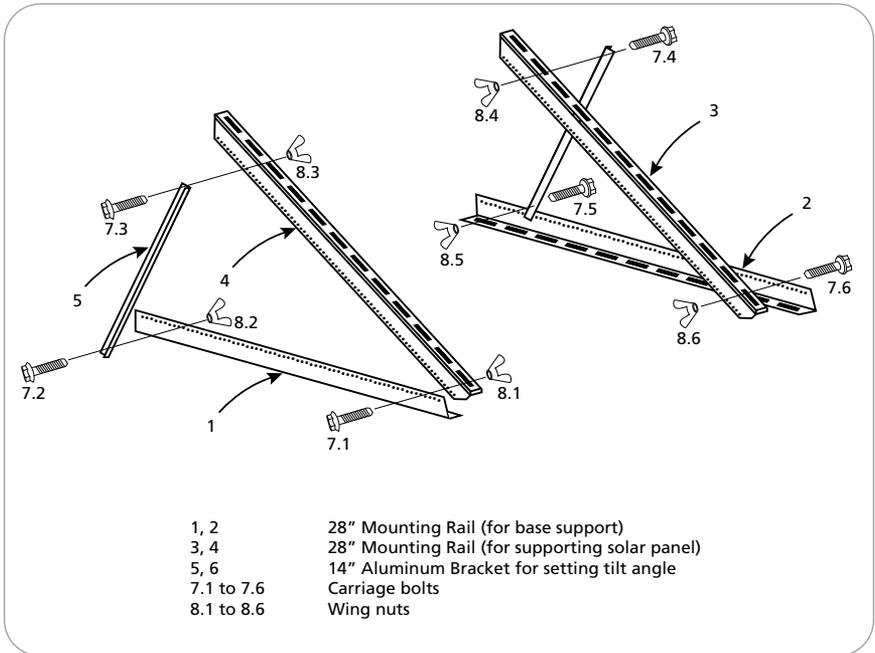

Fig.1. ADJ-28 Tilt Mount
The ADJ-28 Tilt Mount kit includes 4 Nos. sturdy 28" Aluminum mounting rails, 2 Nos. 14" Aluminum brackets (Fig. 1) and stainless steel hardware required to securely fasten a solar panel to the roof of your Recreational Vehicle (RV) or any other flat surface. The inclination of the solar panel can be adjusted to a desired angle with respect to the horizontal axis.
A Well-Nut is a bushing of tough neoprene rubber with a flange at the top end and a captive brass nut mounted within the bore at the bottom end (Fig. 2). This is used to anchor the 28" base support mounting rails (1, 2 of Fig.1) on to the roof of the RV or to other flat surface. Typical installation is shown in Figs 3 to 6. Tightening a conventional machine bolt or screw engages the captive nut thereby causing the bushing to expand outwards. This fastens securely to thinner RV roofs by bulging up and against the bottom surface of the roof (Fig. 5). If used in a blind hole in a solid surface material, the rubber will expand outwards to create a secure fastening (Fig. 6). The neoprene and brass resist most environmental conditions. Additionally, the Well-Nut seals the drilled hole effectively against air and liquid leakage.
2. Fix one pair of 28" mounting rails (3, 4 of Fig.1) to the shorter sides of the solar panel frame using the slotted opening and the 1/4"-20 x 3/4" Flange Bolt, Nylon Locknut and flat washer (Fig. 7). Using a 7/16" wrench, tighten the nuts to secure the mounting brackets to the PV panel. Recommended tightening torque is 15 lbs.
3. Attach the second pair of 28" mounting rails (1, 2 of Fig.1) to the first pair of mounting rails at one end using the wing nut and the 1/4"-20 x 1" carriage bolt, so that it pivots at one end (Point A in Fig. 9).
### Anchoring 28" base support rails (1, 2 of Fig.1) to the RV roof or flat surface with the help of Well-Nuts
4. Position the second pair of 28" mounting rails (1, 2 of Fig.1) on the RV roof or flat surface at the desired location and mark two sets of mounting hole positions on each 28" rail. It is desirable to have the mounting holes located as close to the extremities of the 28" mounting rails (1, 2 of Fig.1) as possible.
5. To install the Well-Nuts to anchor the two base support mounting rails (1, 2 of Fig.1), drill holes 1 1/4" deep at the marked positions using a 1/2" size drill bit. Make sure that drilling does not interfere with pre-existing wiring installations.
8. Fasten the base support mounting rails (1, 2 of Fig.1) to the roof surface by inserting the  $\frac{1}{4}$  x  $1\frac{1}{4}$ " serrated flange bolt into the Well-Nut. Tighten using a  $\frac{3}{8}$ " wrench to a recommended torque of 15 lbs. When the serrated flange bolt is screwed into the Well-Nut, the material surrounding the well nut bulges slightly securing the structure to the RV roof (Fig. 5, Fig. 8).